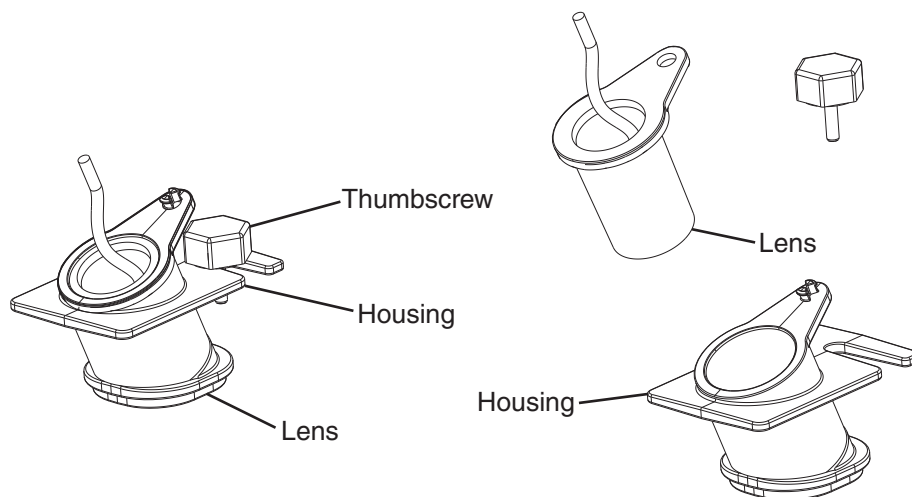

Fig. 4
- 4) Confirm that BC1 is connected to CB K10 connector. Wipe down BC1 lens with a warm, clean, damp cloth. If the bottom of the icemaker is not accessible in your application, remove the thumbscrew securing the BC1 housing, then remove the housing from the base. See Fig. 4.
- 8) CB "GM" and "COMP" LEDs are on. Use an object to cover BC1 lens at the bottom of the icemaker. If the bottom of the icemaker is not accessible in your application, remove the thumbscrew securing BC1 housing, remove the housing from the base, then cover BC1 lens. See Fig. 4. The CB BC1 "BIN FULL" orange LED on turns on. After the orange LED turns on, BC1 shutdown delay timer starts. See "III.B.2. BC1 (Ultrasonic Sensor) Shutdown Delay (S2 dip switch 1, 2, 3)." Comp (LLV/SLV on MLKZ model) should de-energize immediately after the shutdown delay timer terminates. 5 min. later, GM and FM/FMR should de-energize.